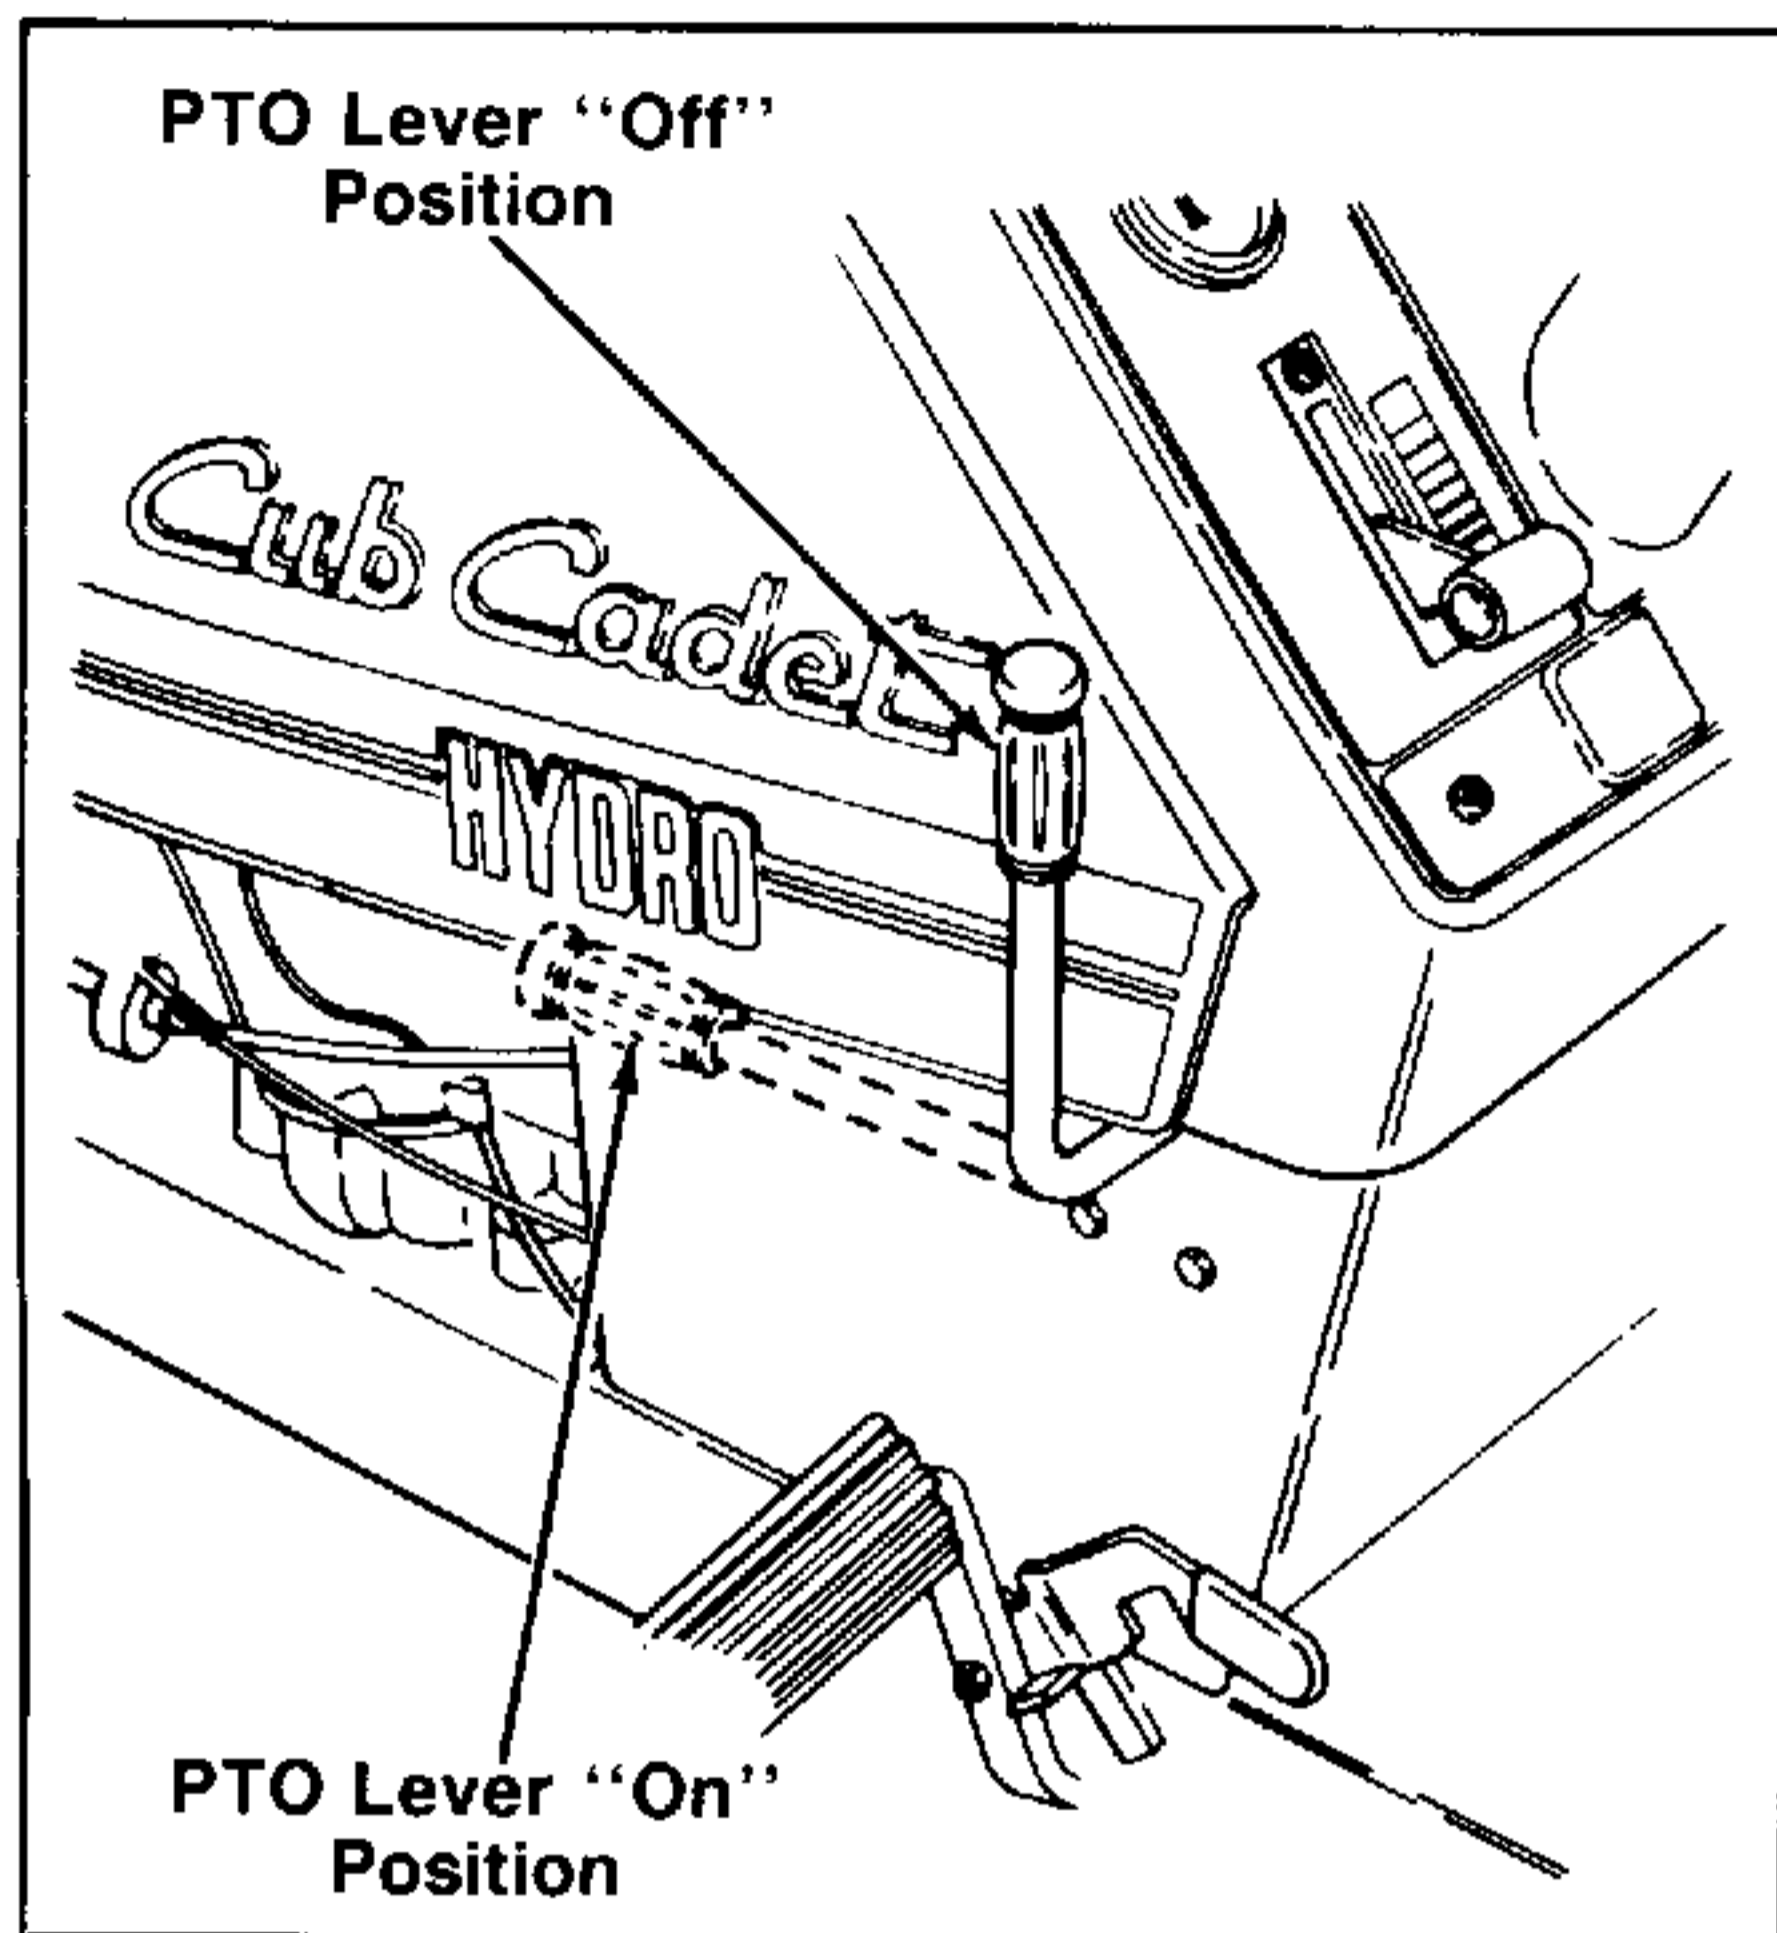

FIGURE 16.
4. Place the PTO engagement lever in the "ON" position. Refer to figure 16.
1. Place the PTO engagement lever in the "OFF" position. Refer to figure 16.